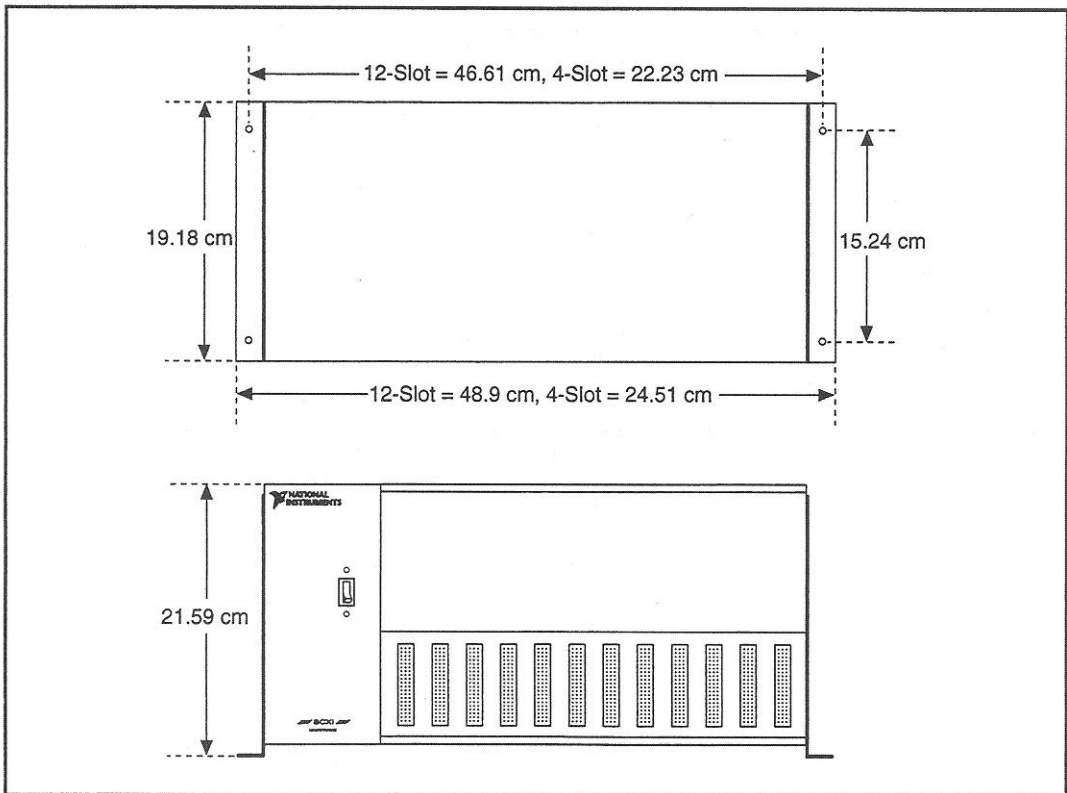

Figure 2. Dimensions if the Brackets are Turned Out
2. Mark where you want holes on the surface where you are mounting the assembly. Use the bracket holes as a guide or use the assembly dimensions in Figures 2 and 3.
If the brackets are turned *out*, the holes for a 12-slot chassis should be positioned at 15.24 by 46.61 cm (6.0 by 18.35 in.), and for a 4-slot chassis should be positioned at 15.24 by 22.23 cm (6.0 by 8.75 in.). See Figure 2 for dimensions.